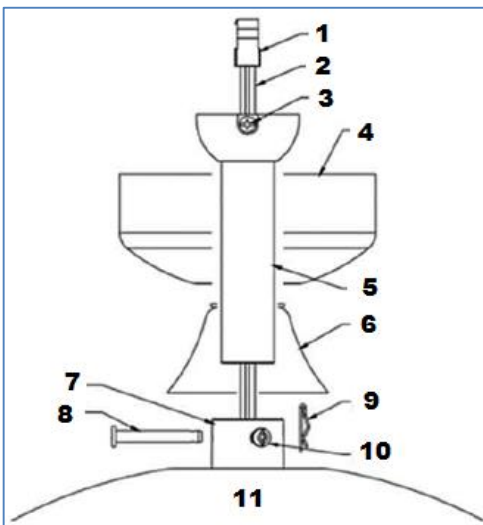

Fig. 4
- 1) Feed the down rod (5) through the canopy (4) and the bolt and pin cover (6).
- 2) Remove the ball joint by loosening the set screw (3) and insert the motor wires through the down rod and then secure the ball joint back to the down rod.
- 3) Insert the down rod to the coupling (7), line up the coupling holes with the down rod holes and insert the bolt (8). Then insert the pin (9) to the end of the bolt.
- 4) Finally secure the down rod and coupling by tightening the two set screws (10) on the coupling. Fig. 4